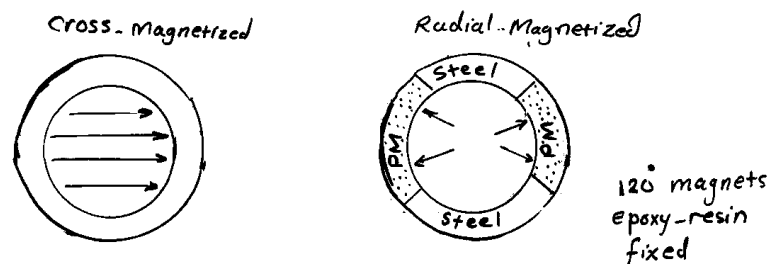

Fig.1: Small PM stators
- Very small dc motors are often made with permanent magnet (PM) fields. The stator wound of conventional DC motors are replaced by permanent magnets. The rotor has a conventional DC armature winding with commutator segments and brushes. The 2-pole machine shown in Fig.1 has "annular" magnet that may be cross-magnetized or it may be radially magnetized.